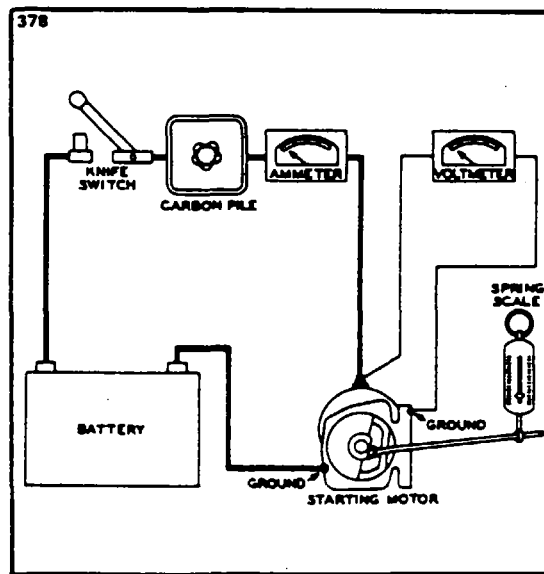

Figure 11-43. Stall-Torque Hook-up
b. If no difficulty is indicated in the above test, a stall torque test may be made to see if the starting motor is producing its rated cranking power. Make test connections as shown in Figure 11-43.